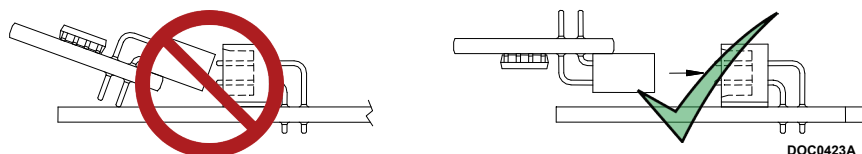

Figure 6. License Key Installation
6. Press the license key into the terminal until it is firmly seated (refer to Figure 6).